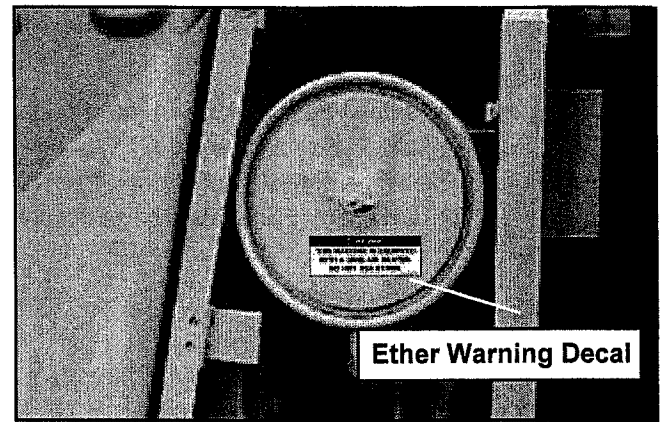

FIGURE 4.25
2. Remove Wing Nut from the Air Cleaner cover. See Figure 4.25.